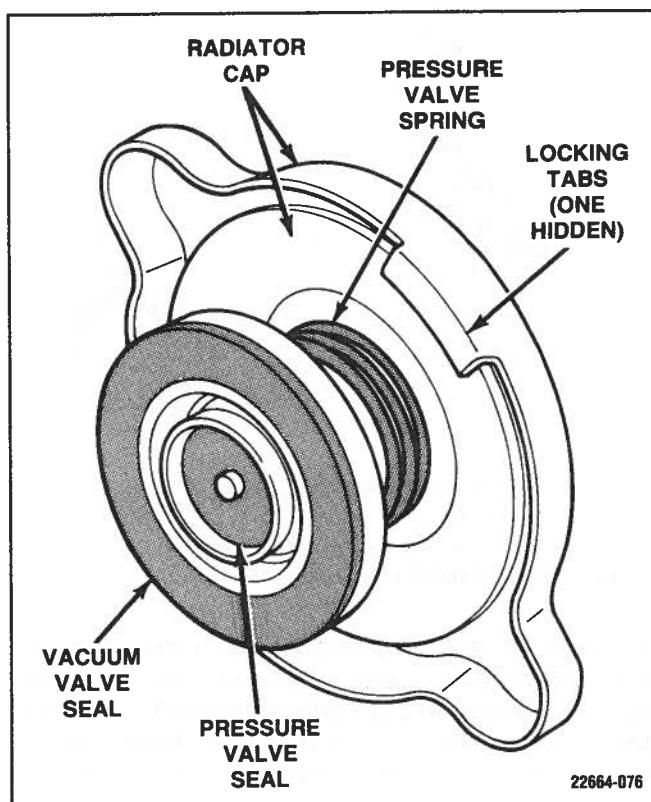

Figure 10-3. Pressure Cap
1. Carefully remove the pressure cap (Figure 10-3) from the reservoir or heat exchanger.